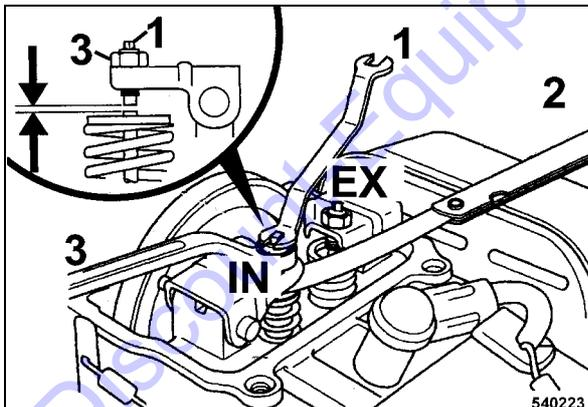

Fig. 52
- To adjust the valve hold valve adjustment screw 1 (Fig. 52) and slacken locking screw (2).